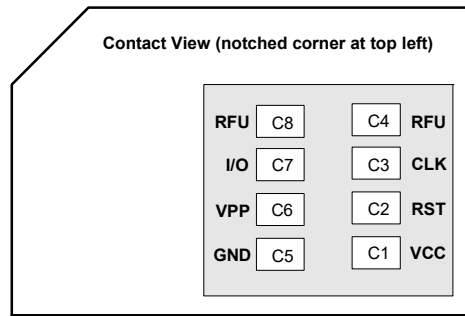

Figure 2-6: SIM Card Contacts (Contact View)
a. See Figure 2-6 on page 32 for SIM card contacts.